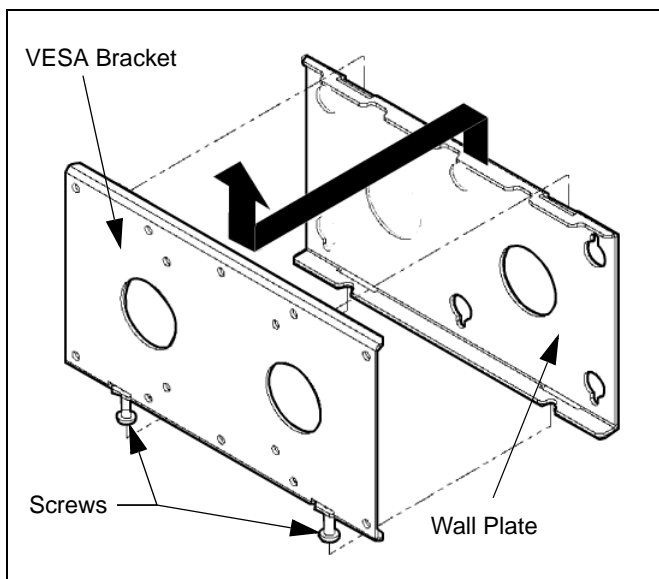

Figure 6: Remove VESA Bracket from Wall Bracket
- Secure wall bracket (20) to wall using four bolts, and four flat washers. (see figure 6)